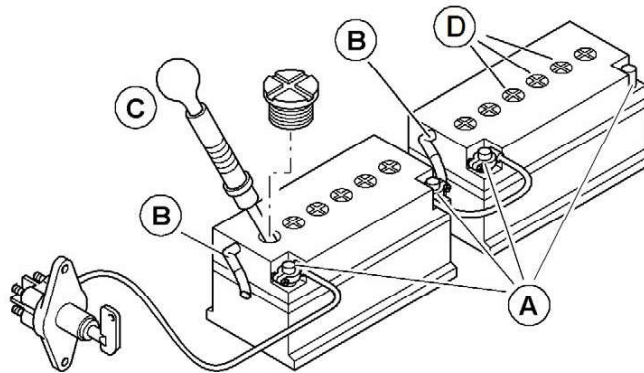

Fig. 5-66 Battery care
- Check the condition of the hoses **B** regularly, particularly after installing a battery (see Fig. 5-66).